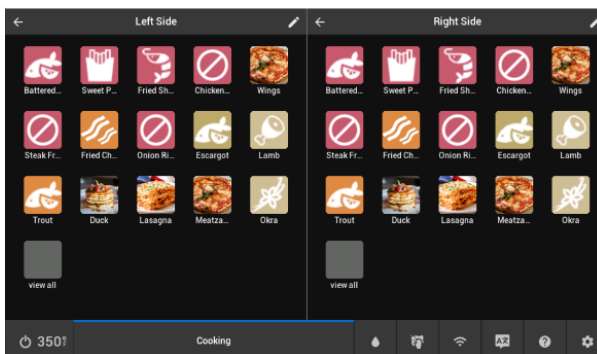
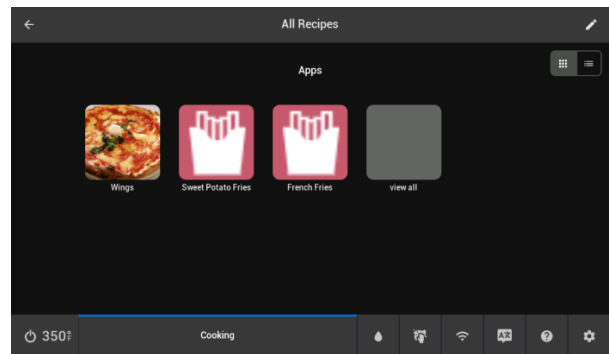

Figure 9 - Protein Screen-Twin Tanks
Figure 10 - Apps Screen
- Select needed recipe from the **Group** screen in **Figure 9** or from the **All-Recipes** screen in **Figure 10**